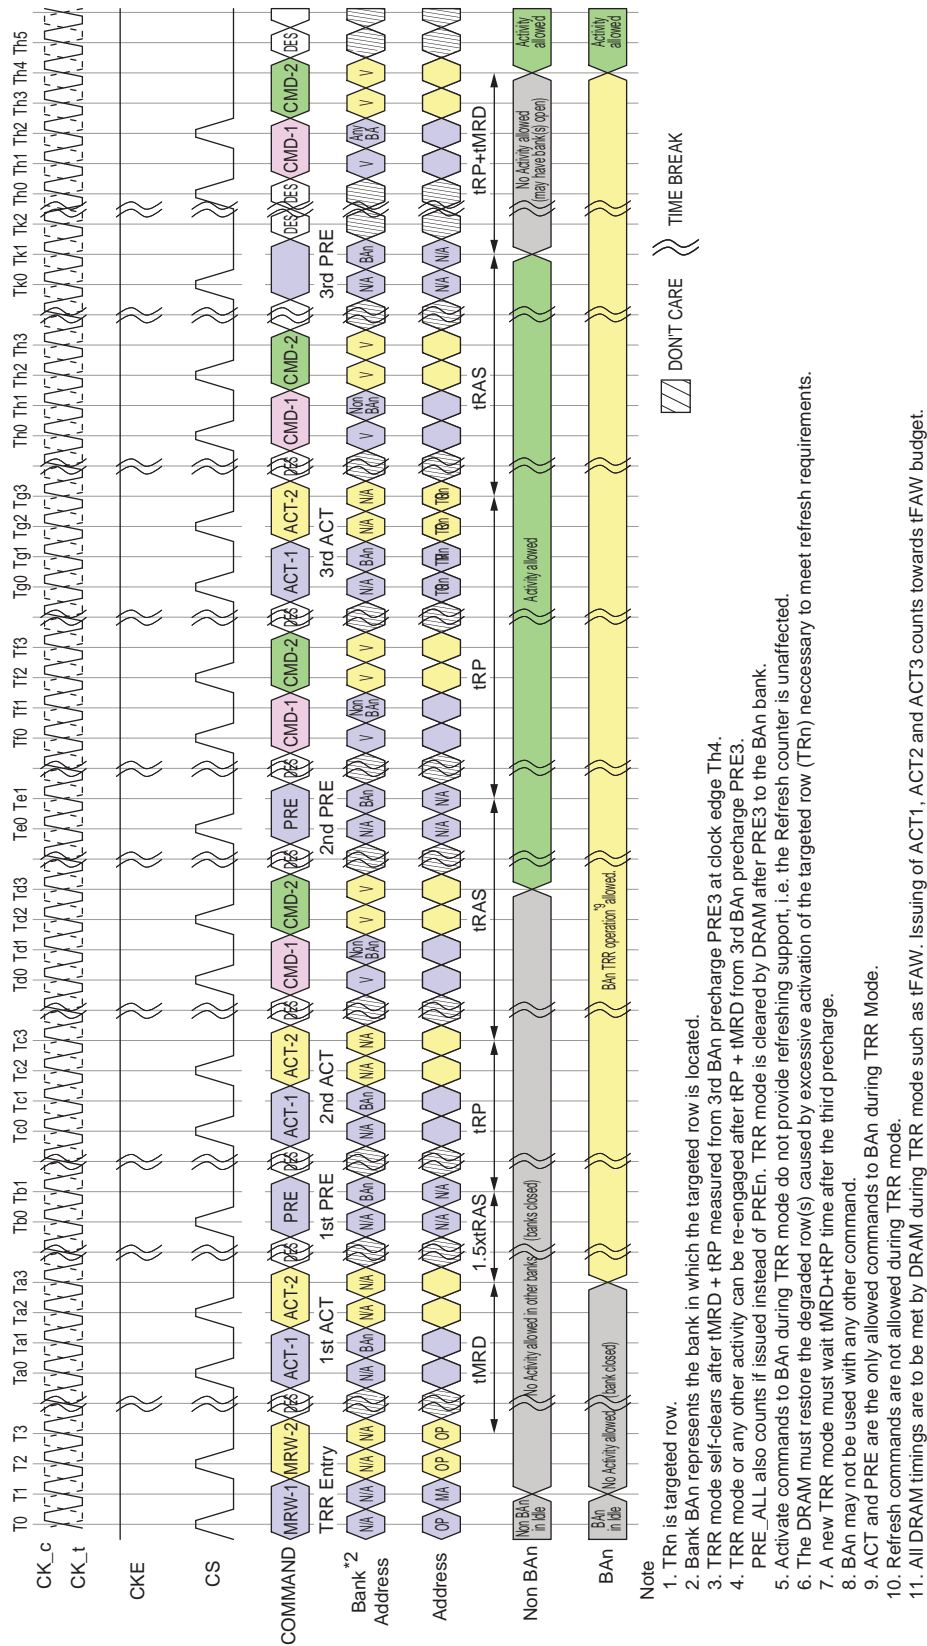

Figure 4.129 — TRR Mode
1. The timing diagram in Figure 4.129 depicts TRR mode. The following steps must be performed when TRR mode is enabled. This mode requires all three ACT (ACT1, ACT2 and ACT3) and three corresponding PRE commands (PRE1, PRE2 and PRE3) to complete TRR mode. A Precharge All (PREA) commands issued while LPDDR4 SDRAM is in TRR mode will also perform precharge to BAn and counts towards a PREn command.